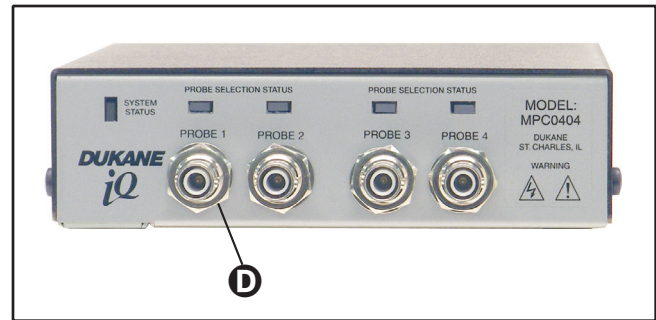

Figure 3-5 MPC Module Front Connectors
Refer to Figure 3-5 below. Complete these connections.
1. Probe Cable(s) - Beginning with PROBE 1, connect one end of the cable (See Table 3-IV below.) to the U/S connector on the MPC's front panel - **D** in Figure 3-5. Connect the other end of the cable to the corresponding probe for your specific welding application.